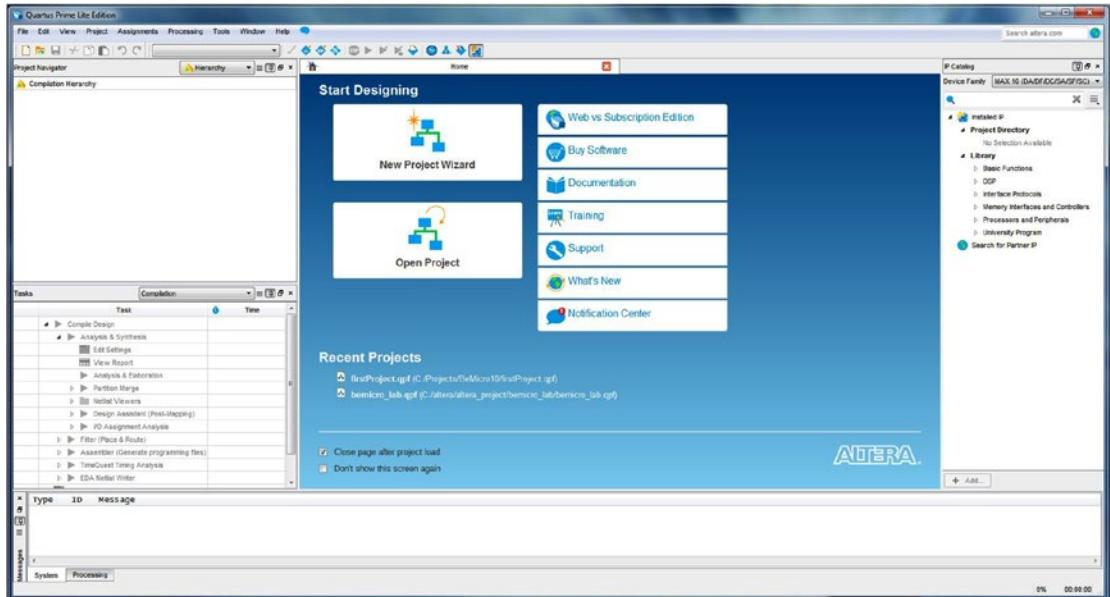
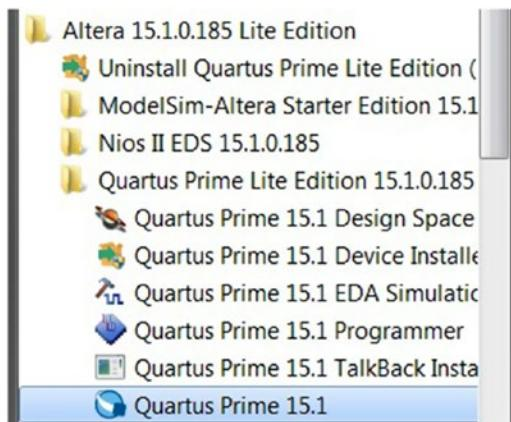

Figure 3-21. Quartus Prime Lite Edition
Figure 3-22. Windows Start menu
10. Quartus Prime Lite Edition should be brought up in front of you, as in Figure 3-21. If it isn't, you can bring it up from your Start menu. In the Start menu, Quartus Prime 15.1 is your entry point. You should able to find it as in in Figure 3-22.